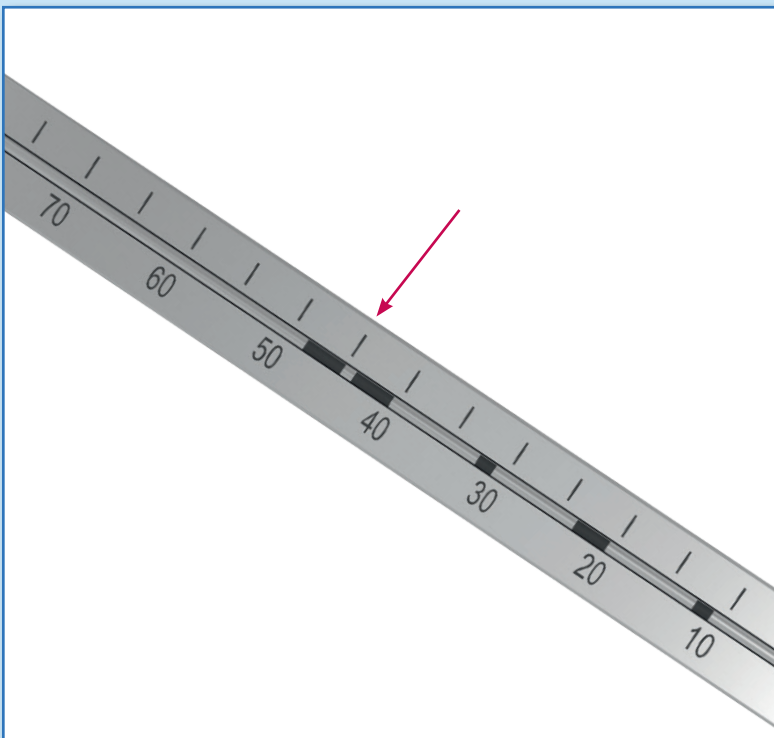

Fig. 11
3. Read the screw length at the middle of the two widest laser markings on the K-Wire. The reading is an approximation, depending on the depth of the K-Wire in bone. (Fig. 11)